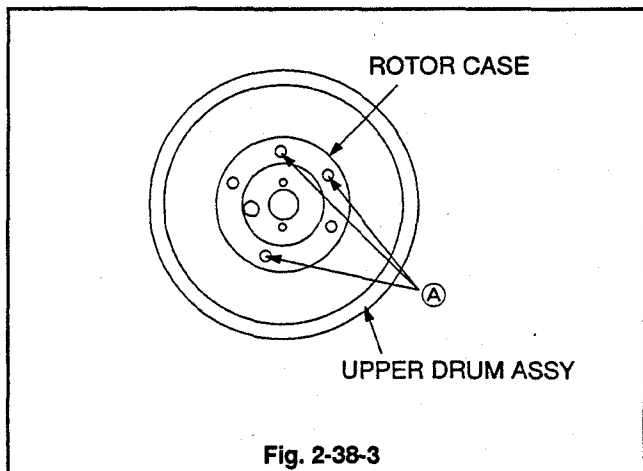

Fig. 2-38-3
5. Install the ROTOR CASE shown in Fig. 2-38-1 so that the reference Holes (A) match each other at three points between the ROTOR CASE shown in Fig. 2-38-3 and the UPPER DRUM ASSY.